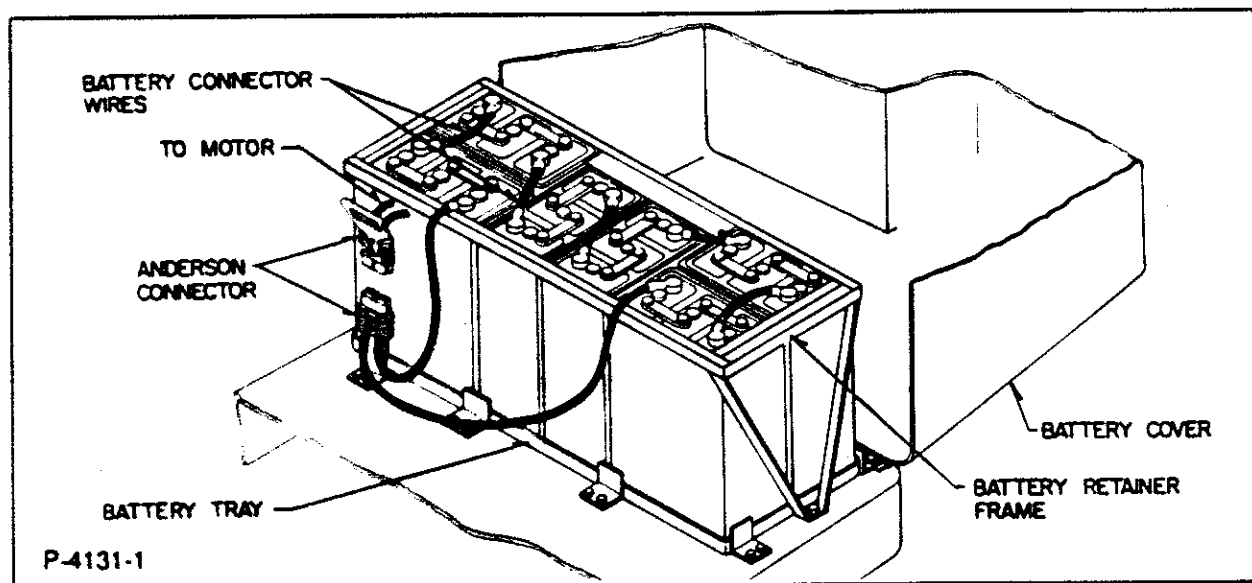

Figure 17
9. Put the new batteries in the machine battery trays. See Figure 17 for the battery positions.